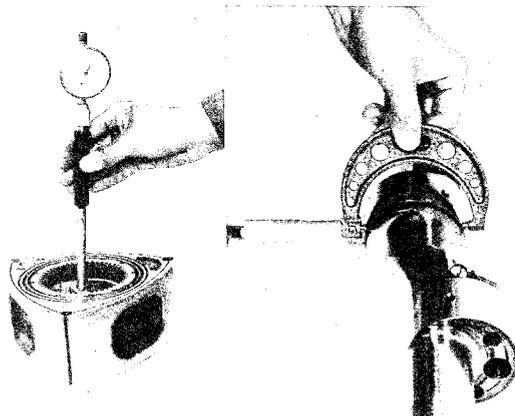

Fig. 1-38 Checking rotor bearing clearance
2. Check the rotor bearing clearance by measuring the inner diameter of the rotor bearing and outer diameter of the eccentric shaft rotor journal, as shown in Fig. 1-38.